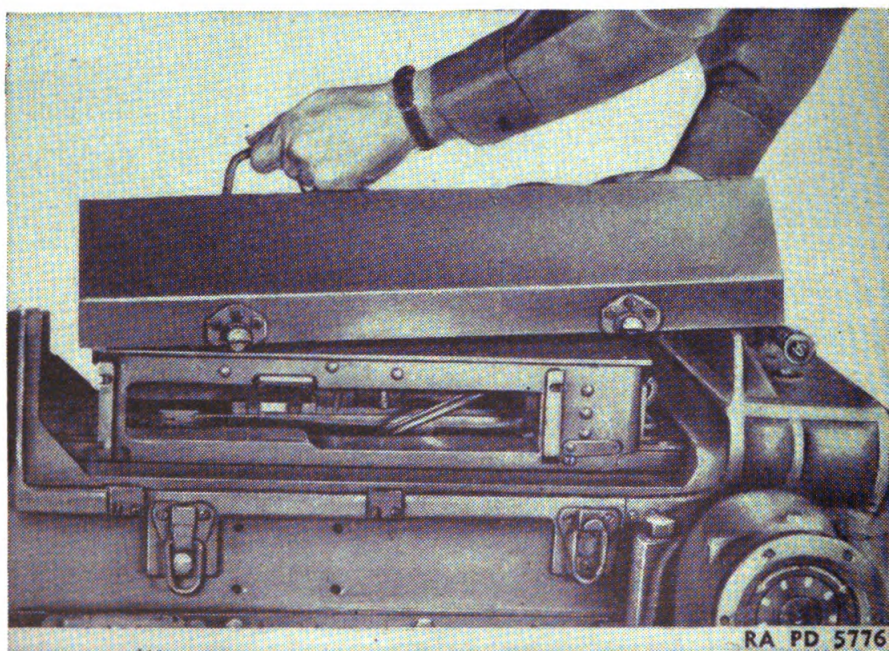

FIGURE 41.—Removing cradle shield cover from M3A1 carriage.
(2) Unlatch both sides of the cradle shield cover. Lift the cover from the cradle (fig. 41).